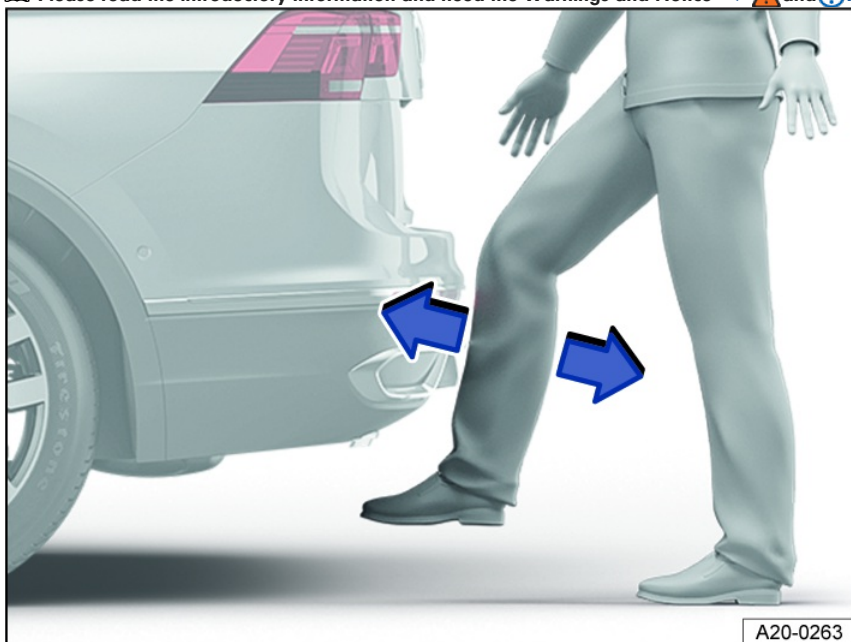

Fig. 67 General example of the sensor-controlled luggage compartment opener (Easy Open).
2. Quickly swing the lower part of your leg close to the bumper fig. 67.